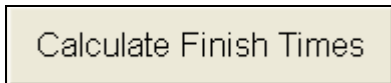

Figure 16.1.12B
- You can calculate finish times by clicking on the **Calculate Finish Times** button (Figure 16.1.12B).